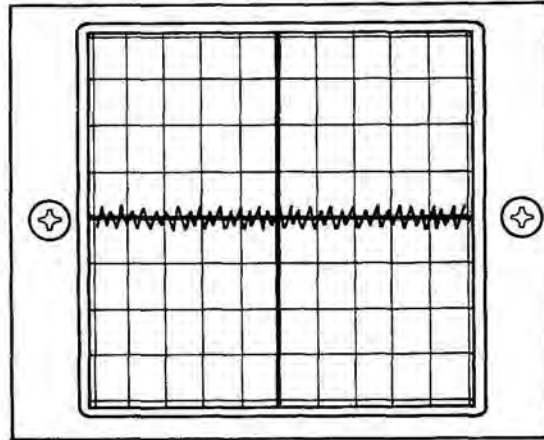

Figure 3-22 Displayed Trace Centered Over Major Horizontal Axis
3. Adjust INTENSITY Control (37) and FOCUS Control (39) to obtain a sharp visible trace display.
4. Using HORIZ Control (38) and VERT Control (40), center displayed trace on CRT Display (36) as shown in Figure 3-22.